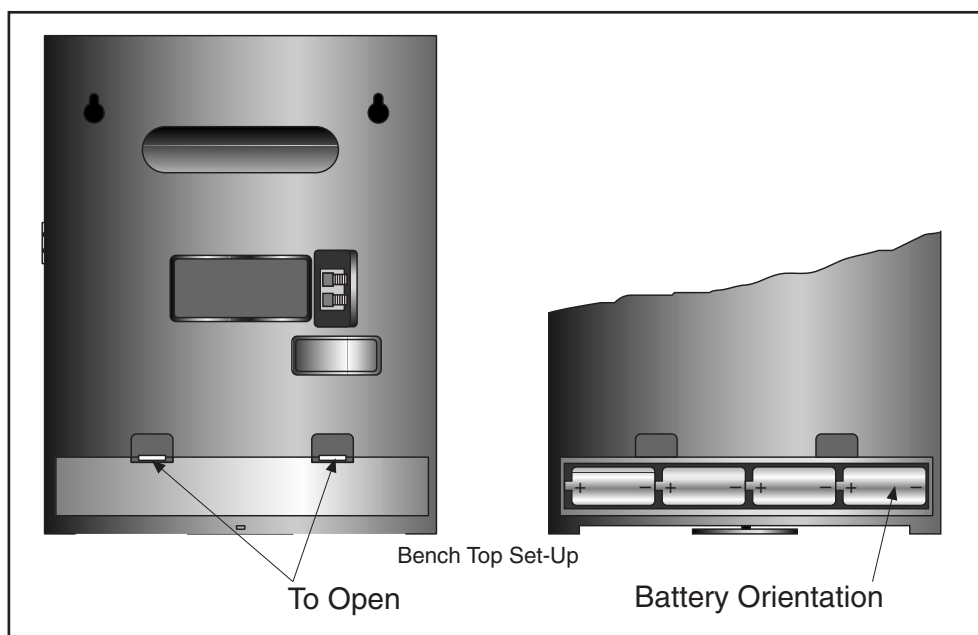

Figure 2-5. Battery Compartment and Battery Orientation
To install the batteries (refer to Figure 2-5):
6. Install the batteries, oriented as shown in Figure 2-5, in the battery compartment.